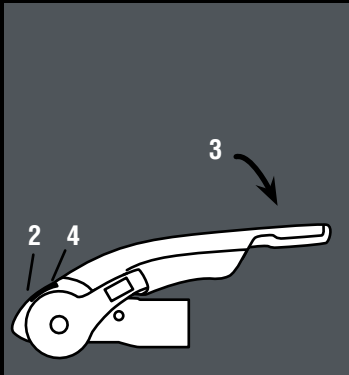
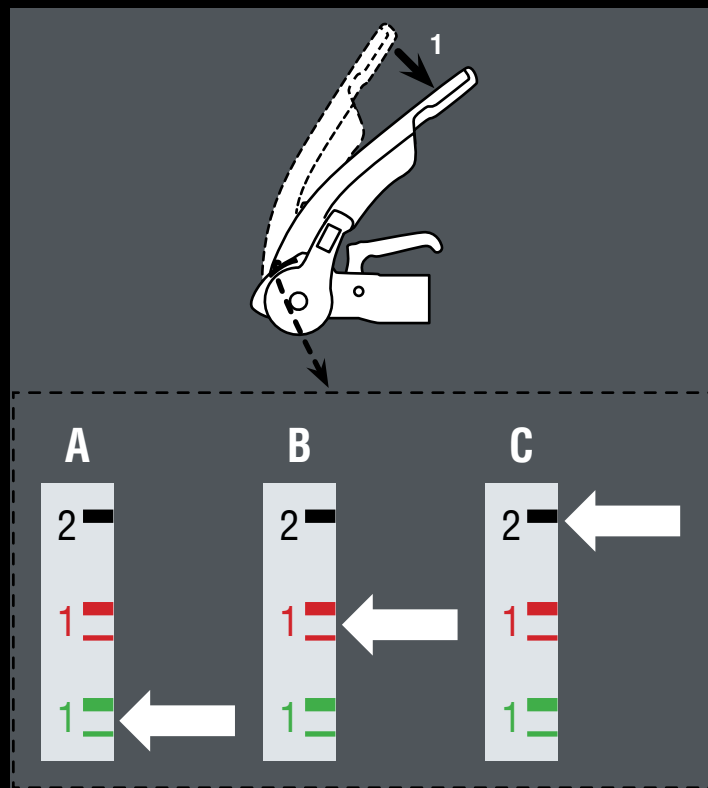

Fig 9 Correct Engagement With Towball
Fig 13 Checking Left/Right Friction Pads
The coupling is correctly engaged when the green edge of the safety indicator button is visible (Fig 9/Item 2).
To operate the stabiliser (once coupled to the towball), simply press the stabiliser lever down as far as it will go (Fig 9/Item 3).
To ensure the stabiliser is correctly coupled, check the arrowhead lines up with the black line marked 2 (Fig 9 /Item 4 and Fig 13/C).
2. Push the stabiliser lever (Fig 13/Item 1) down until resistance is felt (i.e. The friction pads are in contact with the ball but not yet under pressure).
3. Check the position of the arrowhead on the arm of the stabiliser. If it lines up with the two green lines then the friction pads are still as new (Fig 13/A).
4. If the arrowhead lines up with the two red lines then the friction pads are worn and should be replaced immediately (Fig 13/B).
When the stabiliser lever is correctly applied, the arrowhead should line up with the black line marked 2 (Fig 13/C).